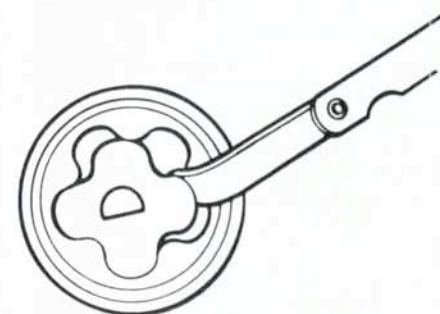
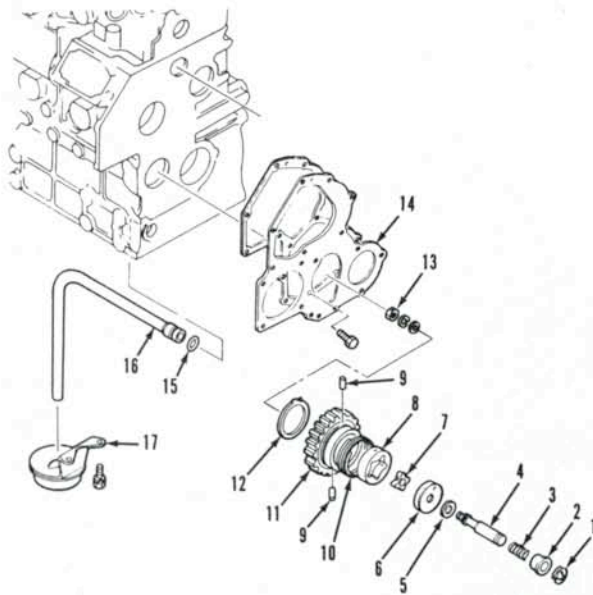

Fig. 104—Check clearance between inner rotor and outer rotor vanes using a feeler gage. Refer to text.
Fig. 105—Exploded view of engine oil pump assembly used on 1210 and 1310 models.
49. The rotor type oil pump is located inside the engine idler gear (11—Fig. 105). The idler gear is pinned to the pump outer rotor (8) and is driven by the crankshaft gear.
Inspect pump cover (6—Fig. 105), rotors (7 and 8) and port head for wear, scratches or scoring and renew if necessary. Use a feeler gage to check rotor to rotor clearance as shown in Fig. 104. Standard clearance is 0.01-0.15 mm (0.0004-0.006 in.) Renew rotors if clearance exceeds 0.25 mm (0.010 inch).